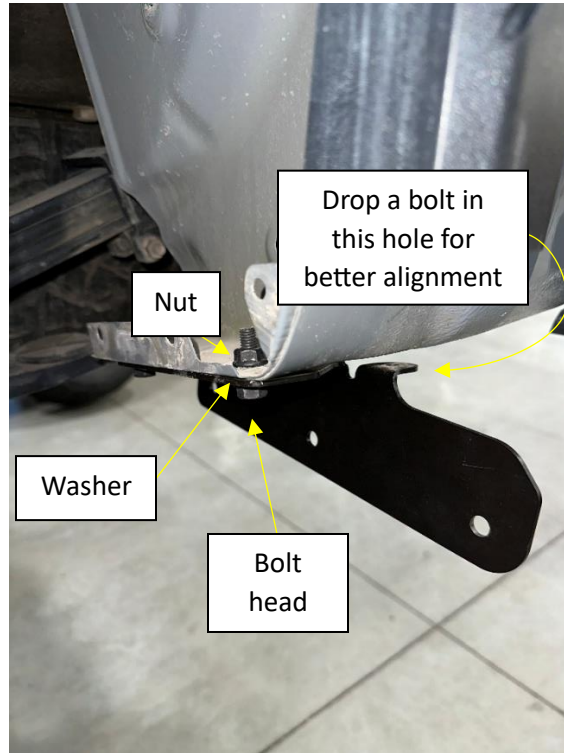

Figure 5
1. Install 2 vertical fender bolts provided into the oversized drilled holes. Be sure to drive the bolts upwards in vehicle (Figure 5).